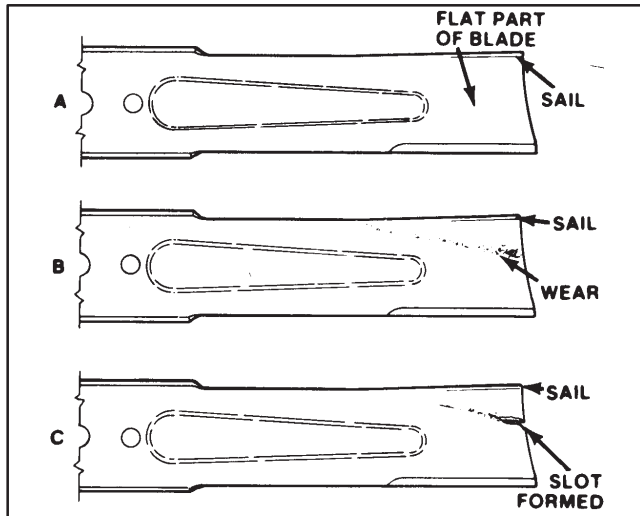

Figure 37
2. Examine cutting ends of the blade carefully, especially where the flat and curved parts of the blade meet (Fig. 37—A). Since sand and abrasive material can wear away the metal that connects the flat and curved parts of the blade, check the blade before using the machine. If wear is noticed (Fig. 37—B), replace the blade: refer to Removing Cutter Blade.
If blade is allowed to wear, a slot will form between the sail and flat part of the blade (Fig. 37—C). Eventually a piece of the blade may break off and be thrown from under the housing, possibly resulting in serious injury to yourself or bystander.